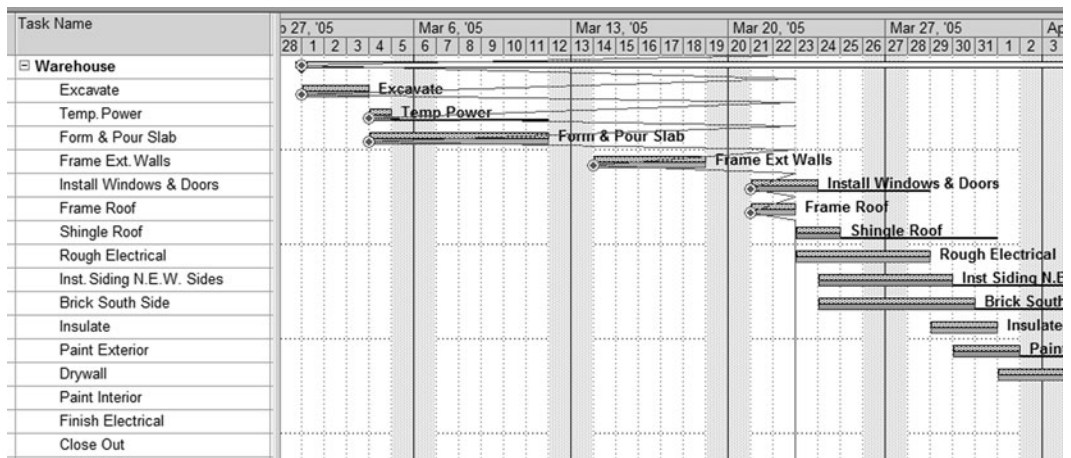

FIGURE 22.24 Status date lines
3. **Format the bars** to show the baseline by using the **Gantt Chart Wizard**. Use the following steps within the wizard: (A) Open the wizard by clicking on the Gantt Chart Wizard button ; (B) Custom Gantt Chart; (C) Critical displayed differently—Yes; (D) Next; (E) Next; (F) Next, (G) Next; (H) Baseline & Slack; (I) Custom Task information; (J) select name to right of the bar; (K) Next; (L) Next; (M) No links or as desired; (N) Format It and Exit the Wizard. Now you see the target bars on top of the current bars.
5. **Show the Status Date Line** (Today’s Date) by selecting **Tools, Tracking, Progress Lines**, and normally you would put a check mark by **Always Display** and then select **Current Date**. However, for this project select the **Status Date** in order to fool the program into thinking a future date is today. You are going to update the schedule on the day that *Frame Roof* should have been completed by (note that date). Select **Project, Project Information**, then enter that date as the **Status Date**. This fools the program into thinking that that date is today. Again, normally you simply choose the **Current Date** which will be the date of the update. The schedule should now look similar to Figure 22.24.